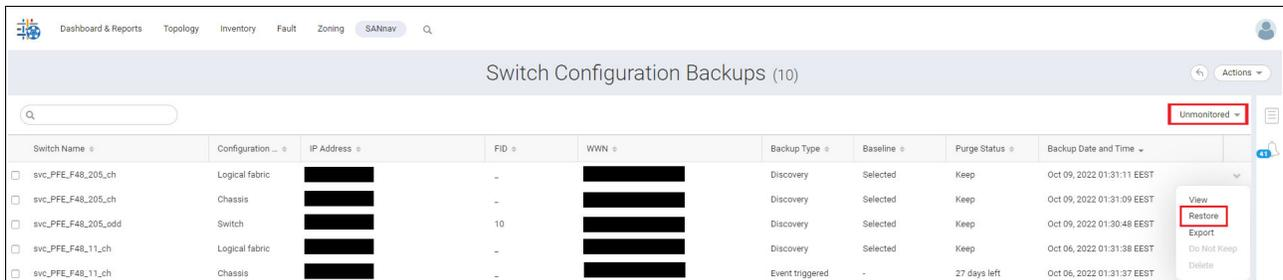

Figure 5-19 Unmonitored restore
- b. Click the down arrow in the rightmost column of a chassis and select **Restore**, as shown in Figure 5-19.